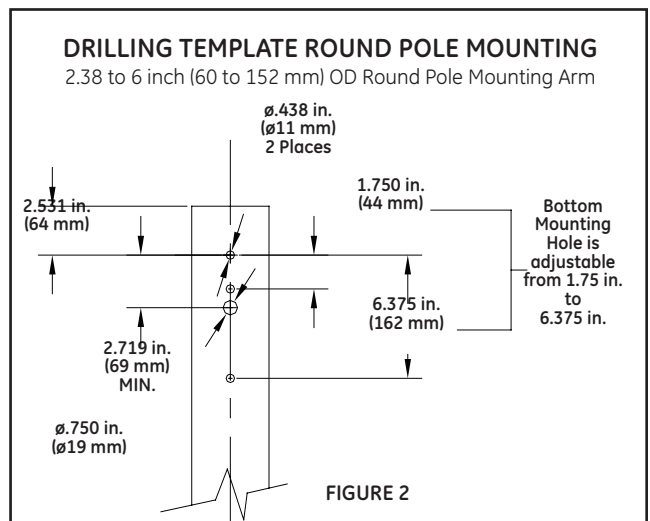

FIGURE 2
This luminaire has been configured to mount to a round poles 2.38 to 6 inches (60-152 mm) in diameter. Hole pattern on round pole shall be in accordance with Figure 2.
- For legacy diagonal bolt pattern (Figure 5.) set nut plate to 4.58" (116 mm). For all other mounting patterns reference Figure 2 on prior page.